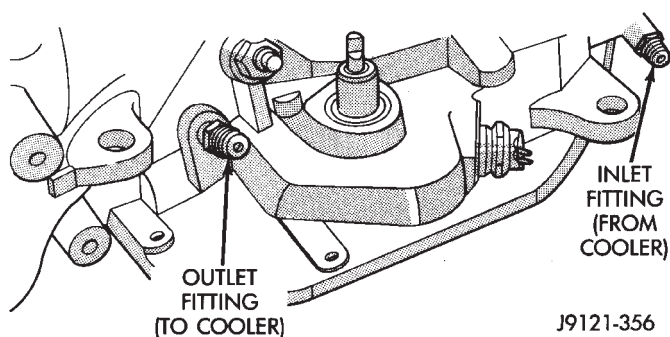

Fig. 21 Identifying Transmission Cooler Lines
(1) Disconnect cooler lines at transmission. Refer to Figure 21 for cooler line fitting identification. Front fitting is outlet to cooler and rear fitting is inlet from cooler.